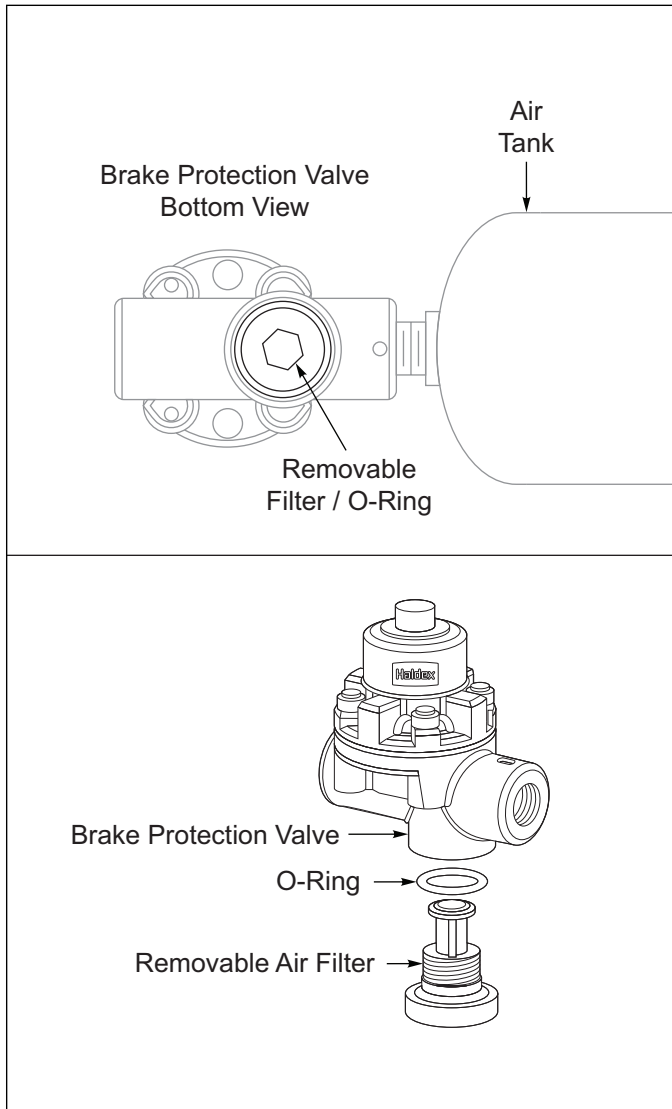

Figure 4-3: Brake Protection Valve
3. Check the brake protection valve filters every 3 months or when the air flow becomes restricted, See Figure 4-3.